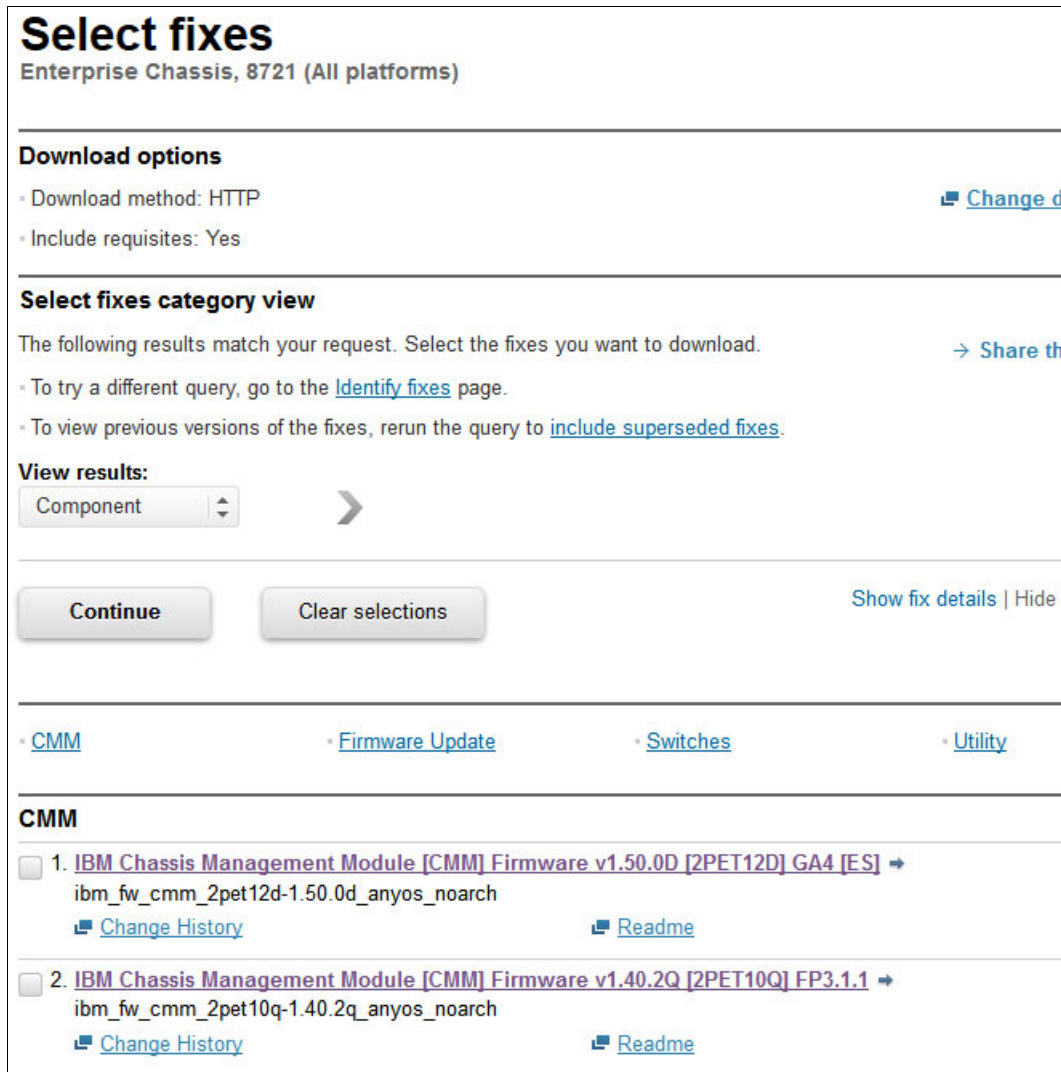

Figure 6-86 Select firmware packages
- From the Select Fixes page select the firmware packages that you want to download as shown in Figure 6-86.